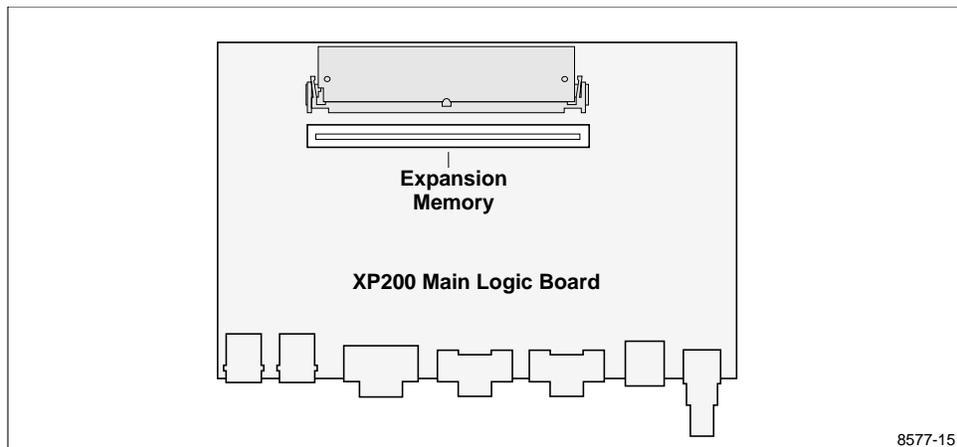

Figure 23. XP200 Expansion Memory Socket Location
4. Locate the expansion memory socket (see Figure 23).